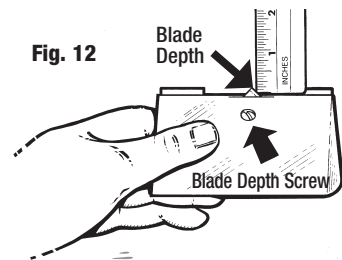

Fig. 12
1. **Bevel blade adjustment** - Turning depth adjustment screw in (clockwise) will decrease depth and turning screw out (counter-clockwise) will increase depth. (Fig. 12) Note that proper blade depth will result in the blade just clearing the matboard and lightly scoring the slip sheet underneath.